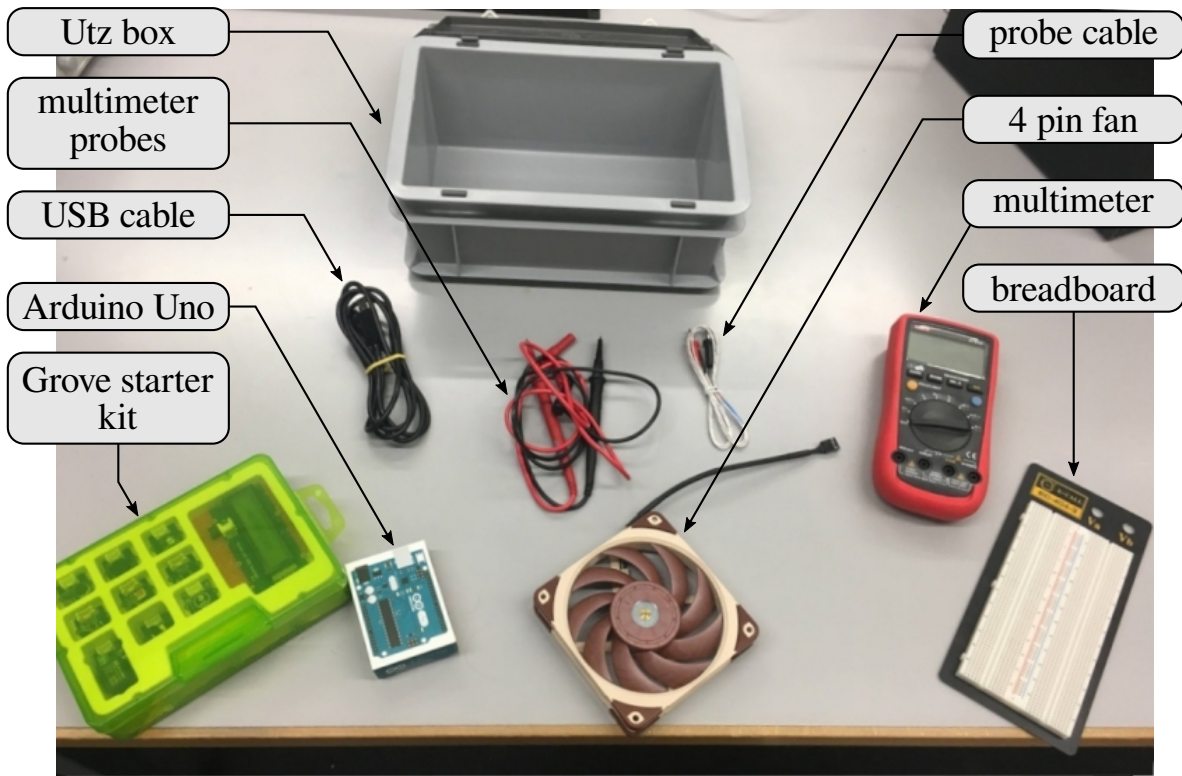
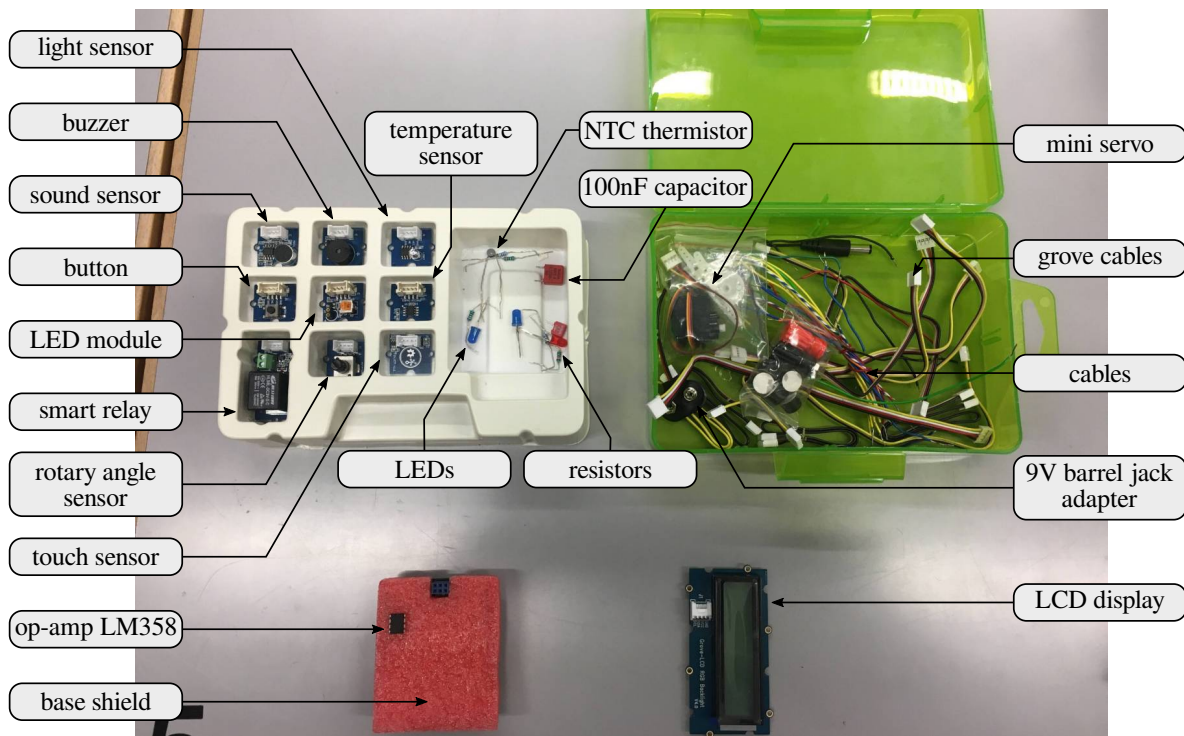

Figure 14: Content of the Utz box.
Figure 15: Content of the Grove starter kit. The base shield is under the red protective foam.
The full setup is contained in the box shown in Figure 13. You will find this box on your assigned lab space in room H 41 in the HPP building. The box contains the items shown in Figure 14, and the contents of the Grove starter kit are shown in Figure 15. Manuals for several devices may be found in Table 2:
**Figure 14 and Figure 15. If anything broke during the experiment, please inform the assistant, so that it can be replaced.**